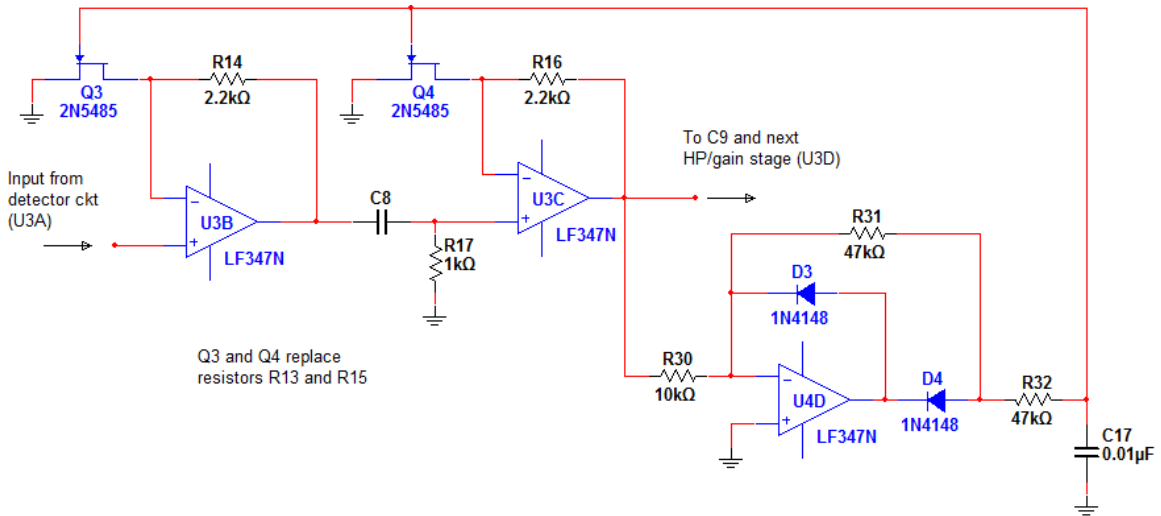

Figure 5-5 – Modification of receiver circuit to implement an AGC loop.
To make an AGC circuit we need two things: a voltage-controlled gain stage, and a circuit that senses the amplitude of the incoming signal. A popular way to implement a voltage-controlled gain stage is to use a FET biased in the ohmic region. In this region the FET behaves like a variable resistor, where the resistance value is set by the gate voltage. Figure 5-5 shows how we could modify the first two gain stages in our receiver to create a voltage-controlled gain, replacing resistors R13 and R15 by FETs.
In the AGC circuit of Figure 5-5, note that values for resistors R14 and R16 have been suggested. The resistance of the 2N5485 can be varied from about 150Ω at $V_{gs} = 0$ to >2kΩ
- Optional, for Extra Credit: modify your receiver circuit to include a AGC loop as shown in Figure 5-5. Test the system over a range of transmitter-receiver distances; you will probably want to monitor the output of the final gain stage (U3D) in your receiver as you vary the distance, in order to help identify the optimal values for R14, R16, and R31.